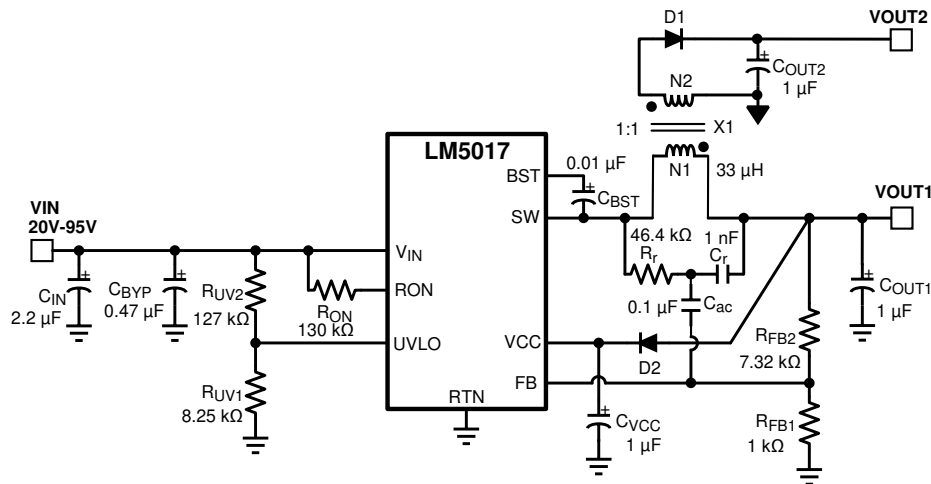

图 8-5. Typical Isolated Application Schematic
An isolated supply using the LM5017 is shown in 图 8-5. Inductor (L) in a typical buck circuit is replaced with a coupled inductor (X1). A diode (D1) is used to rectify the voltage on a secondary output. The nominal voltage at the secondary output ( $V_{OUT2}$ ) is given by 方程式 20.